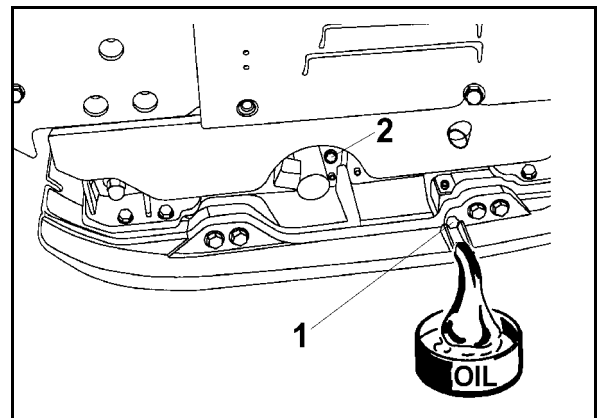

Fig. 61
- Unscrew oil level inspection plug 1 (Fig. 61) and check the oil level.